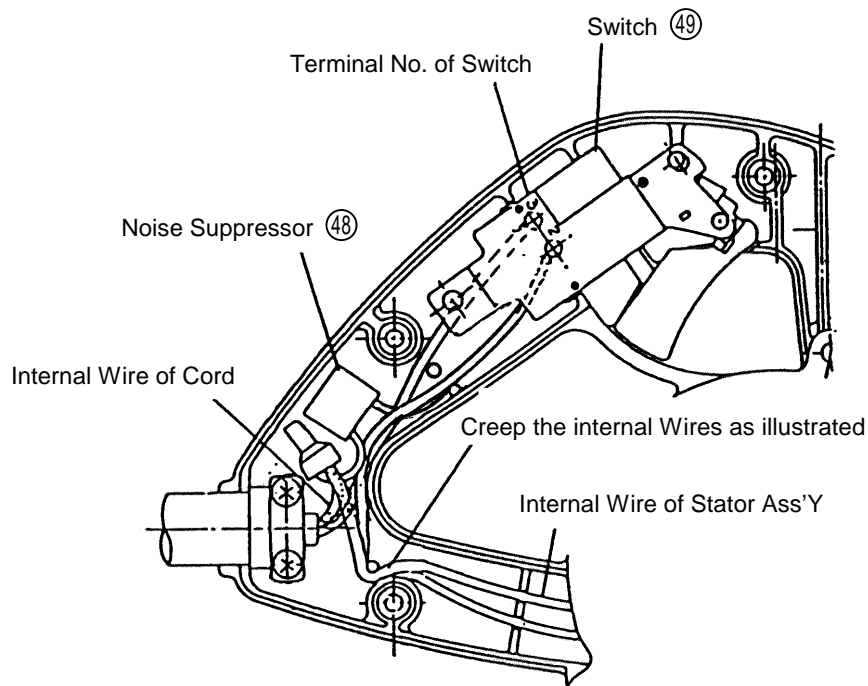

Fig. 5
(6) Internal Wire Arrangement (See Fig. 5):
Connect internal wires as illustrated in Fig. 5.